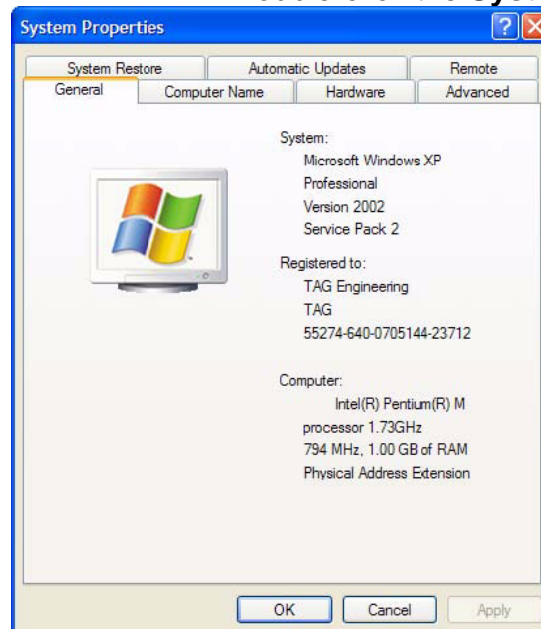

Figure 7-9 System Properties
2. Double-click the **System** icon. (Figure 7-9).